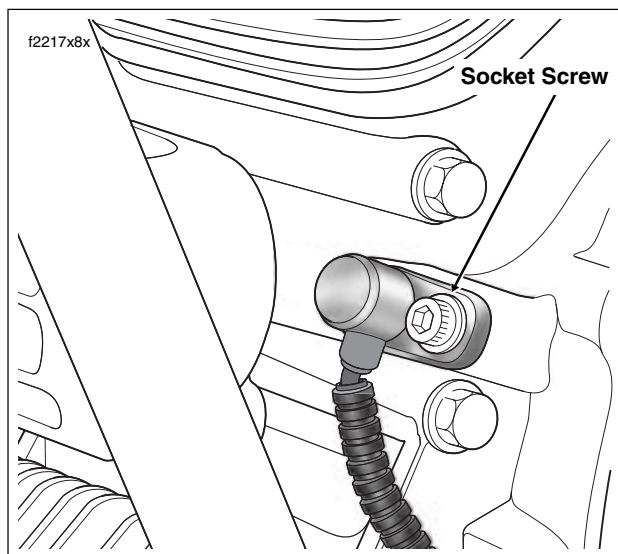

Figure 9-6. Remove Sensor Mount Socket Screw
5. Remove allen head socket screw to free crankshaft position sensor mount from front left side of crankcase. Pull sensor from bore. See Figure 9-6.
- Push sensor into bore aligning hole in sensor mount with hole in spot face. Install allen head socket screw and tighten to 90-120 **in-lbs** (10.2-13.6 Nm). See Figure 9-6.